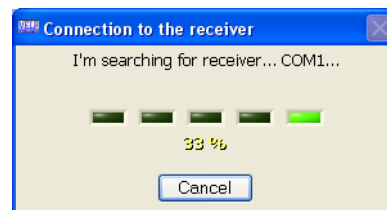

Fig. 5
2. Using the “Connect Receiver” menu with the Automatic Search option, it is possible to find and connect automatically the Wireless DataBox™ (Fig. 5).